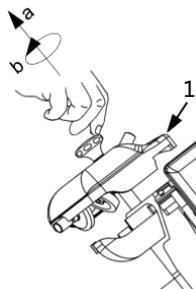

Fig. 25
3. Undo the sharpener retaining screw (18), pull the cap (1) upwards (a, fig. 25) and turn it by 180° (b, fig. 25).